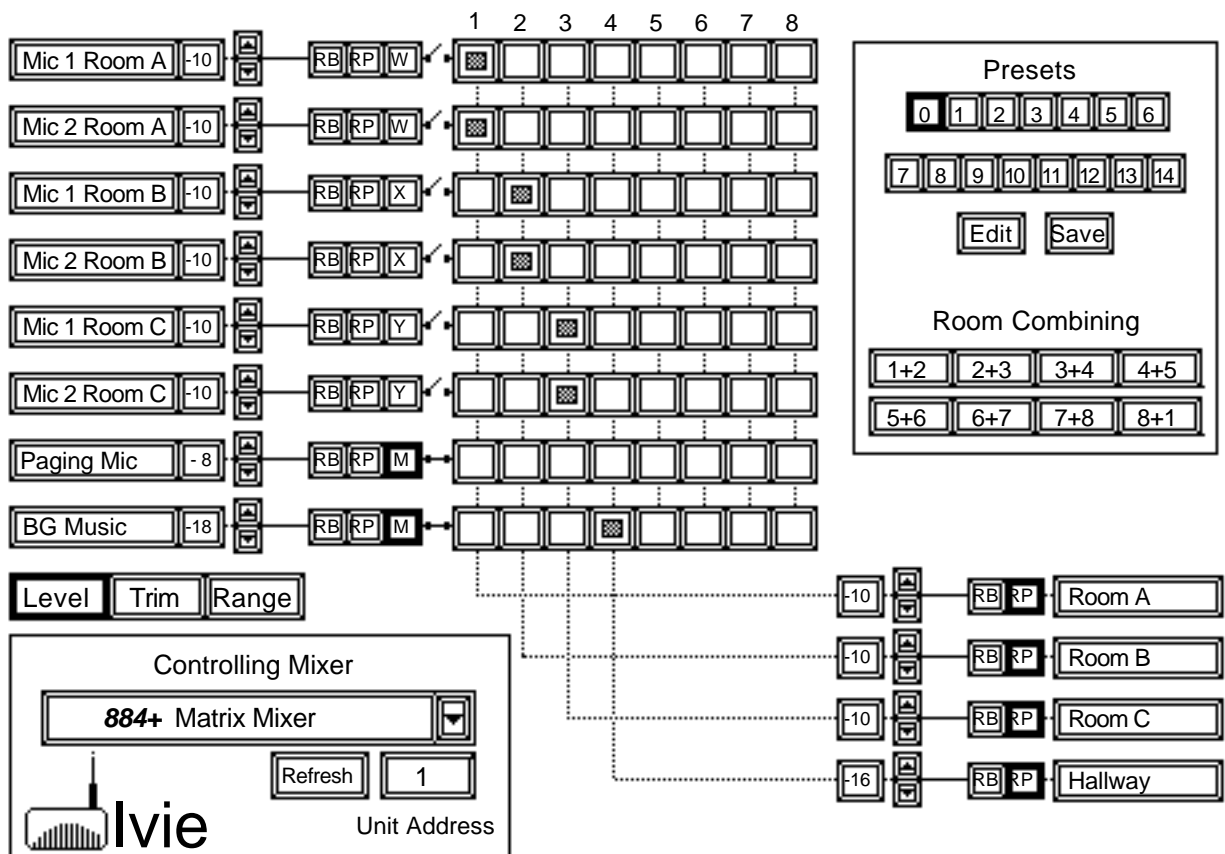

Figure 38
Figure 38 below shows the ANSW+ software control screen and demonstrates the programming that has been done to set up the mixer for its base configuration (Preset 0):
The best way to understand what has been done to arrive at the programmed screen in Figure 38 above is to go through the steps one by one.
4. Inputs have been assigned to mix buses (which feed the outputs as shown). An input to output assignment is made by placing the cursor on a Bus Assign Button and clicking. As the cursor passes over a button, the input to output assignment that would be made is highlighted as a programming aid. Once a button is pressed, positive indication is given by the blue square in the center of the grey button. As can be seen in Figure 38, the two Room A mics have been assigned to the Room A output. The same is true of the microphones for Rooms B and C. No assignment has been made for the Paging Mic which is normally not active (it is activated by a contact closure). The normal configuration for Background Music is that it is on in the Hallway, but not in the meeting rooms, so that assignment has been made, as can be seen.